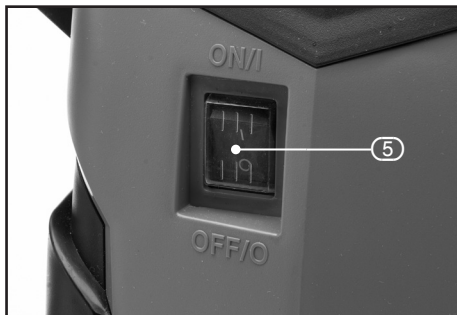

FIG.15
10.2 SWITCHING ON – FIGS. 15 – 18